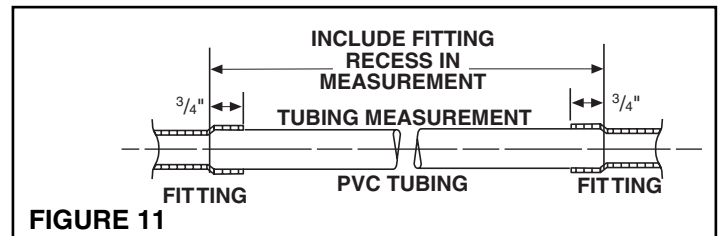

FIGURE 11
7. Refer to Figure 11. Measure length of tubing needed to connect inlet to trunk line. Allow approximately ¾" of tubing for inserting into fittings.